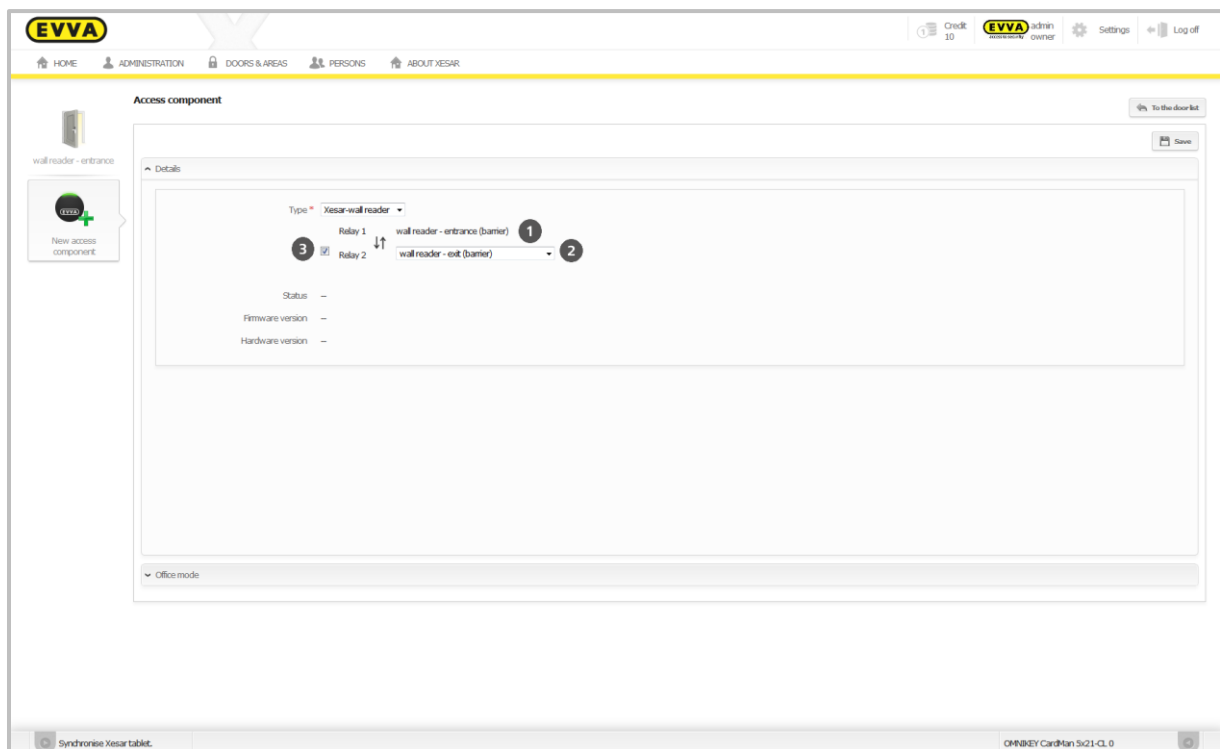

Figure 78: Connecting Xesar wall readers
- **Relay 1 ①** (Figure 78: Connecting Xesar wall readers) is automatically assigned to the wall reader.
- Click **New access component ⑤** and select the Xesar wall reader from the drop-down list after having created the second door.
- Tick the check box as shown in ⑤ (Figure 78: Connecting Xesar wall readers).
- Select a different, newly created door from the drop-down list in the ② section. This automatically assigns a second wall reader to the selected door and the wall reader icon changes from  (icon-> one wall reader) to  (icon -> two Xesar wall readers).